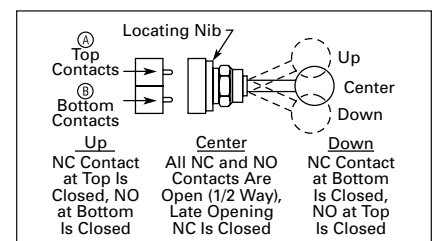

Figure 47-97. A and B Mounting Location
- ⑤ Bolded circuit corresponds to "X-O" circuit selection. X = closed circuit, O = open circuit.
- ⑥ See Figure 47-97 for "A" and "B" mounting location.
- ⑦ NO = Normally Open, NC = Normally Closed, LONC = Late Opening Normally Closed.
- ⑧ Four circuits in single block depth — rated 300V max.